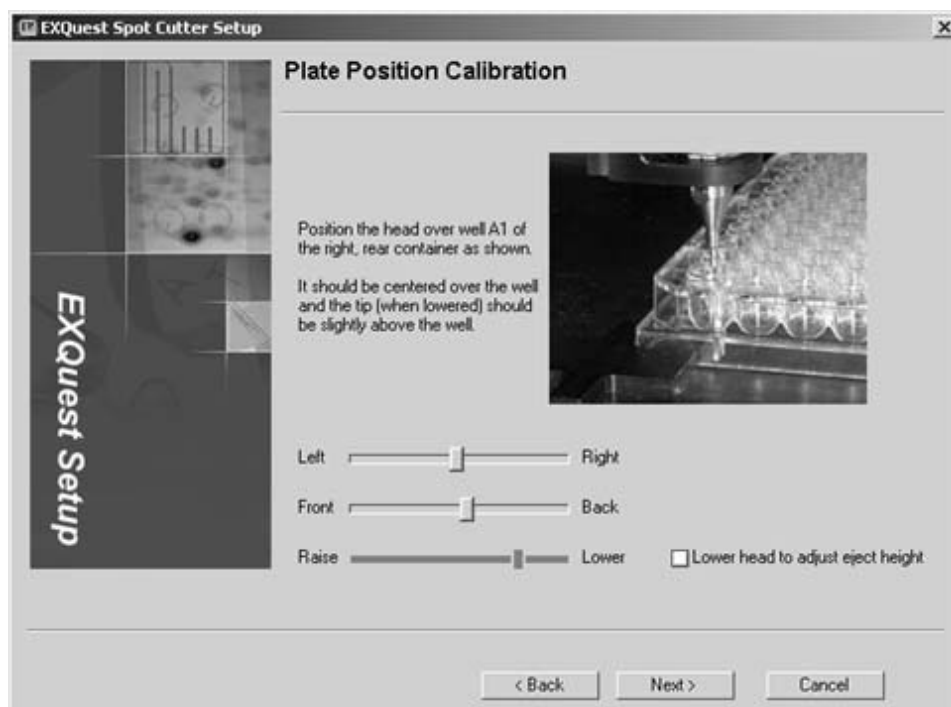

Figure 3-11. Plate position calibration: cutting tip adjustment.
- b. Use the **Left/Right** and **Front/Back** slider to center the cutting tip over well A1, as shown below in Figure 3-11. Click on the slider bar to move the tip in 0.2 mm increments or click and drag the slider to make larger adjustments.